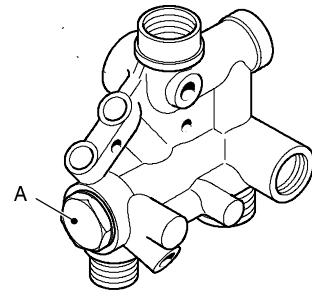

fig. 62
- 2 Unscrew the plug A (fig. 62) and extract the filter.